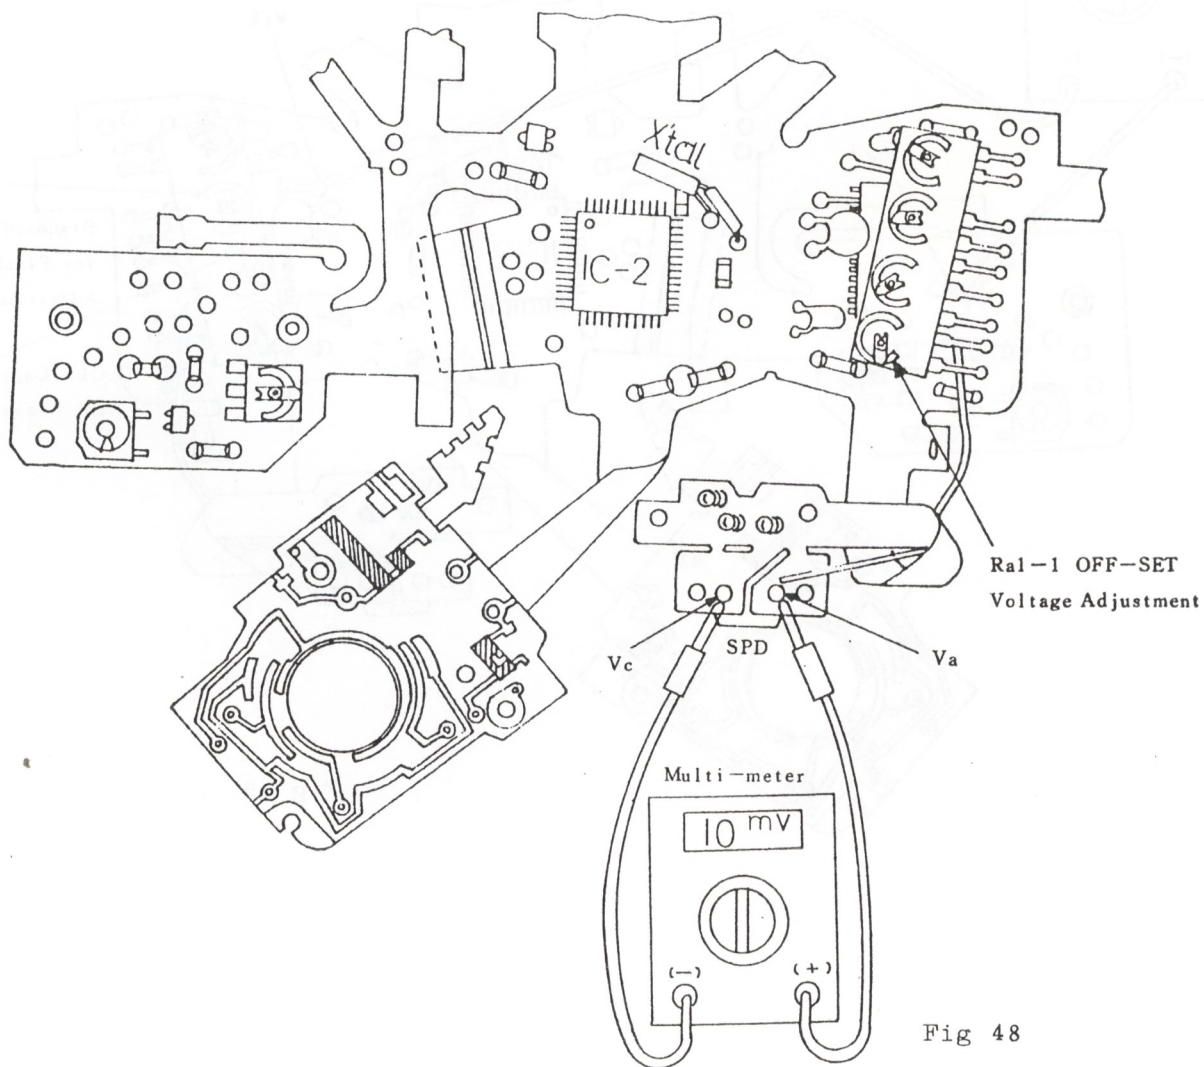

Fig 48
- ① Supply 5 volts from Regulated D.C. Power Supply to the camera.
- ② Connect (+) of digital multi-meter to V_c (-) of digital multi-meter to V_a and then read the voltage. (See Fig 48)